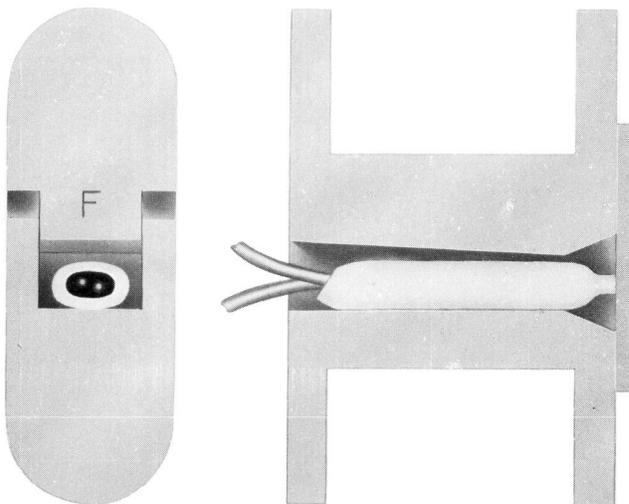

Fig. 9—Proper Die Adjustment
5.02 Final Adjustment: Correct adjustment of the die is important. A die in proper adjustment is shown in Fig. 9. The adjustment screw should be turned until this setting is obtained.